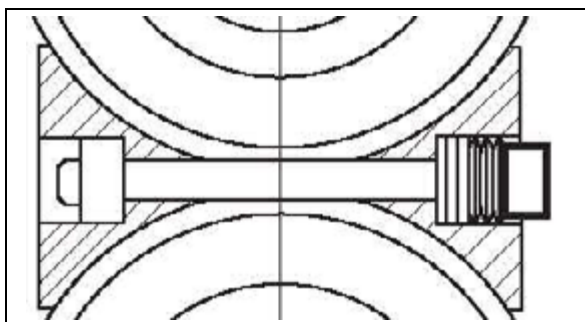

Fig. 67: Friction lining
- Install the new friction linings (Fig. 67 / p. 74).